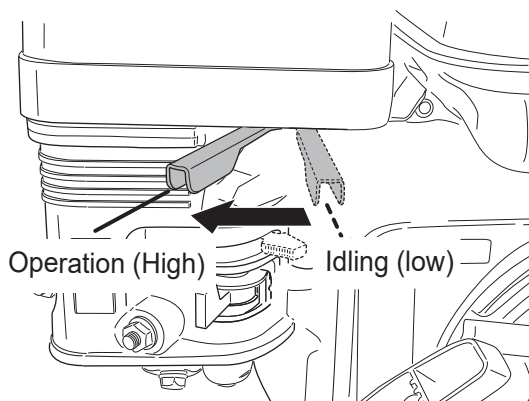

Fig.24
2. Move the throttle lever to the operating speed position slowly. (Fig.24)
4. To cut-in with the blade, turn the lifting handle counterclockwise, and cut down while adjustment the lowering speed so that engine speed is not reduced excessively. (Fig. 24)